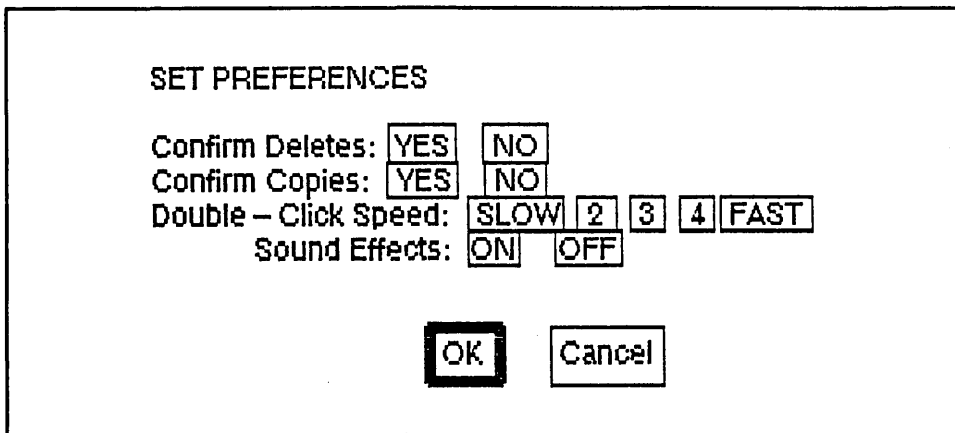

Fig. 1-21. The SET PREFERENCES dialog is used for controlling the physical characteristics of the GEM Desktop.
**Set Preferences . . .** contains a dialog for controlling the display of delete and copy dialogs, setting the speed for a double-click, and turning the GEM Desktop speaker on and off (Fig. 1-21).